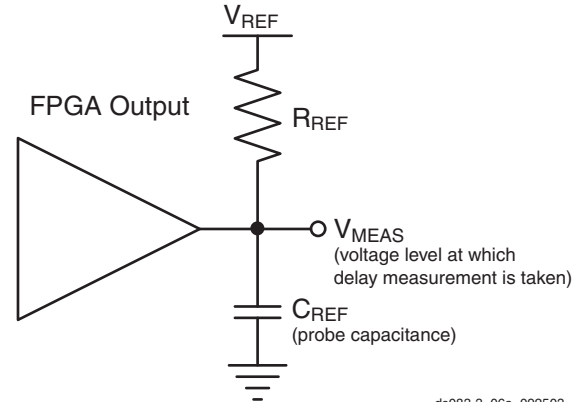

Figure 6: Generalized Test Setup
- Note that this is an input voltage reference that bears no relation to the V_{REF} / V_{MEAS} parameters found in IBIS models and/or noted in Figure 6.
Output delays are measured using a Tektronix P6245 TDS500/600 probe (< 1 pF) across approximately 4" of FR4 microstrip trace. Standard termination was used for all testing. (See Virtex-II Pro Platform FPGA User Guide for details.) The propagation delay of the 4" trace is characterized separately and subtracted from the final measurement, and is therefore not included in the generalized test setup shown in **Figure 6**.